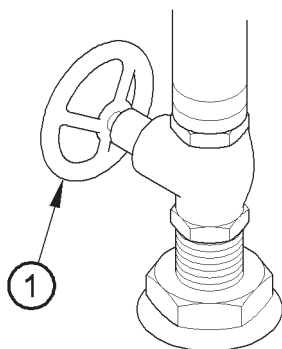

Figure 4
1. Ensure that the seacock is closed (figure 4 item 1).